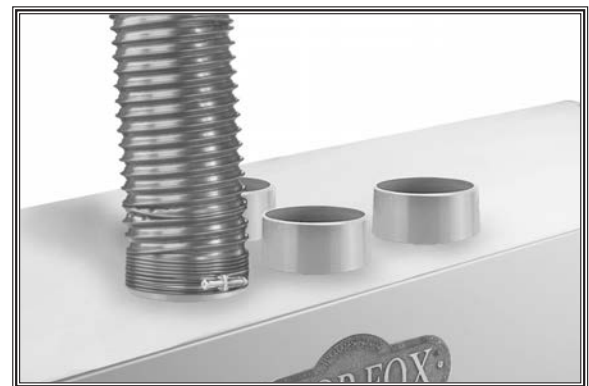

Figure 10. Example of hose attached to port (W1756 shown).
1. Fit dust hoses over dust ports, as shown in **Figure 10**, and secure them in place with hose clamps.